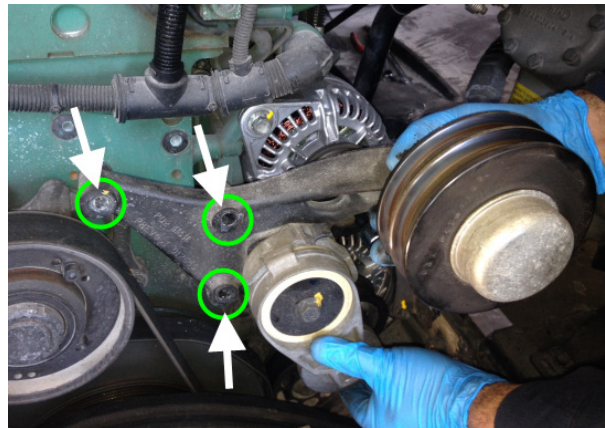

FIGURE 1
1. Remove the A/C compressor belts and then remove A/C compressor idler pulley bracket assembly (3 bolts to be removed, figure 1).